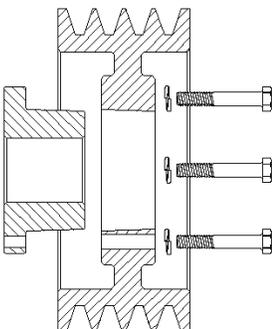

Fig. 1
3. Select **Standard** or **Reverse** mounting assembly. See Figures 1 and 2. (*Warning: If reverse mounting is selected, special thread length capscrews are required for bushing removal.*)